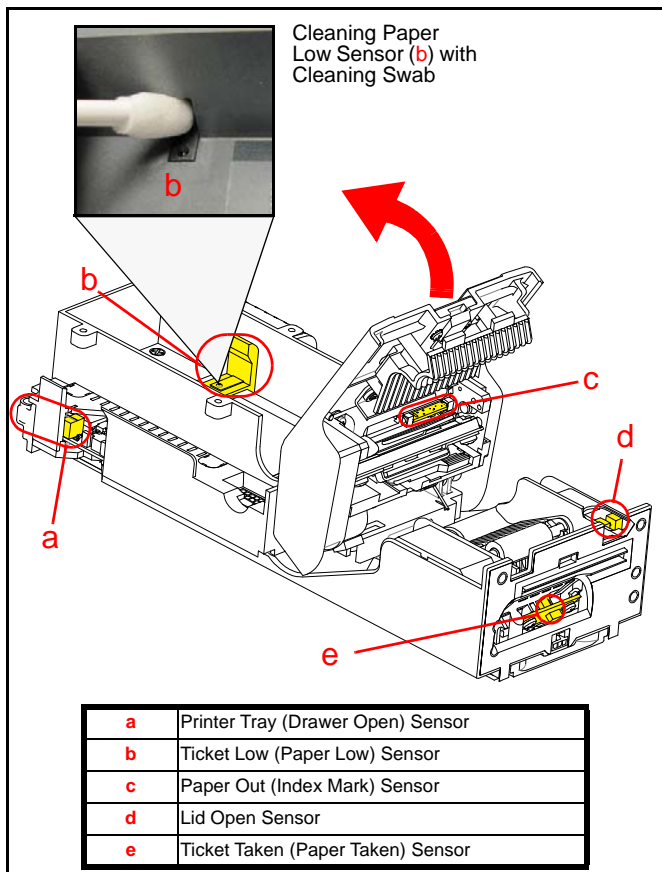

Figure 14 Sensor Locations
8. Clean each of the Sensors using a clean Cleaning Swab (Figure 14).